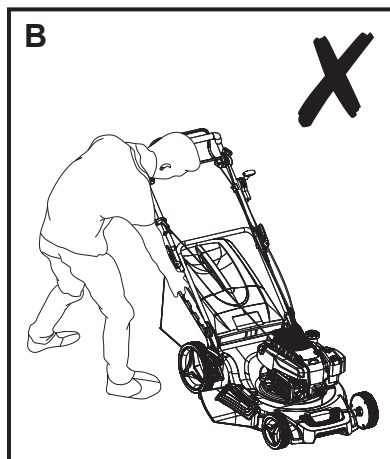

Fig. 15
AVERTISSEMENT ! LA POSITION DE DÉMARRAGE DOIT ÊTRE TELLE QUE DÉCRITE DANS LE MANUEL D'INSTRUCTIONS. LA FIG. 15 A ILLUSTRE LA POSITION DE DÉMARRAGE CORRECTE. L'OPÉRATEUR DOIT DÉMARRER LE MOTEUR EN SE PLAÇANT DERRIÈRE LE GUIDON (1). NE PAS DÉMARRER LE MOTEUR EN SE TENANT SUR LE CÔTÉ DE LA MACHINE, COMME ILLUSTRÉ SUR LA FIG. 15 B.